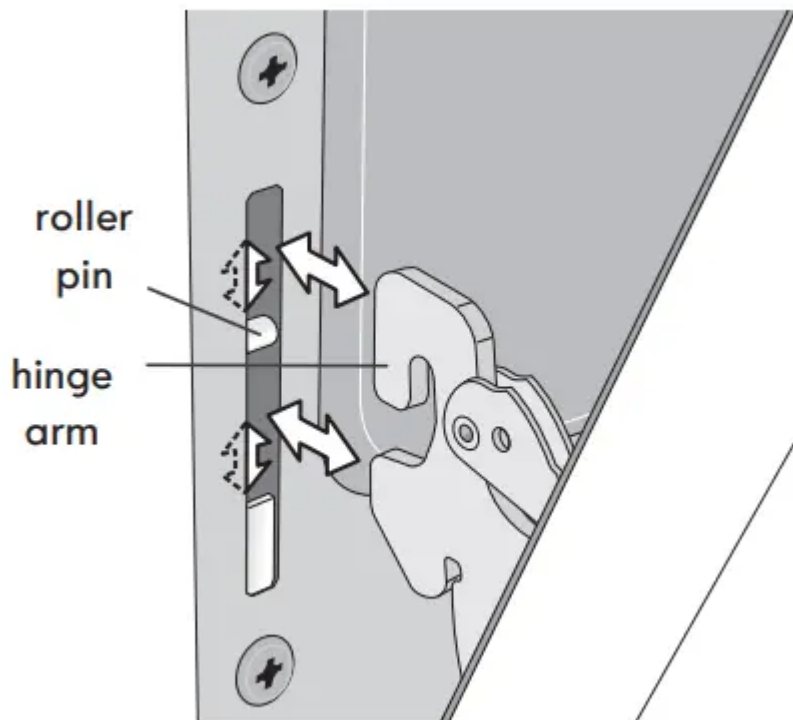

Figure 29: Replacement and location of hinge arm and roller pin
5. With the oven door in the stop position, lift the oven door hinge arms over the roller pins located on each side of the oven frame (See Figure 29).
2. Holding the oven door at the same angle as the removal position, seat the hook of the hinge arm over the roller pins located on each side of the oven door frame (See Figure 29). The hook of the hinge arms must be fully seated onto the roller pins.